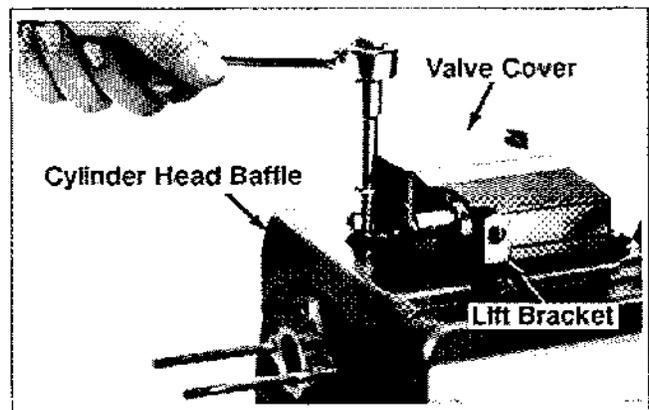

Figure 11-35. Installing Valve Cover.
3. Install the valve cover, lift bracket (lifting hole towards flywheel), and two hex flange screws. Install the remaining hex flange screws. See Figure 11-35.